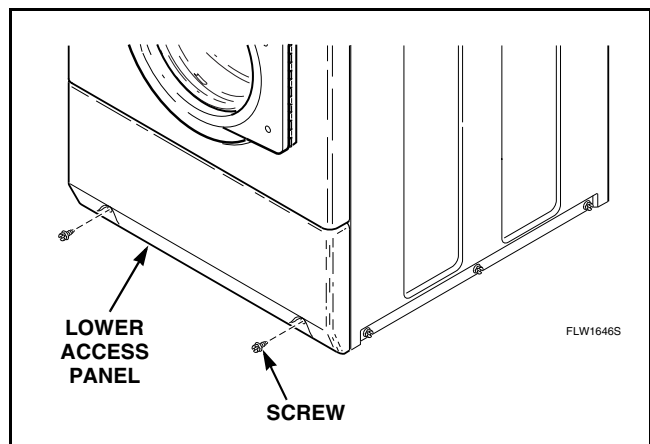

Figure 9
- a. While supporting the lower access panel, remove two screws from bottom edge of lower access panel. Refer to *Figure 9*.
- While supporting the lower access panel, remove two screws from bottom edge of lower access panel. Refer to *Figure 9*.
- a. While supporting the lower access panel, remove two screws from bottom edge of lower access panel. Refer to Figure 9.